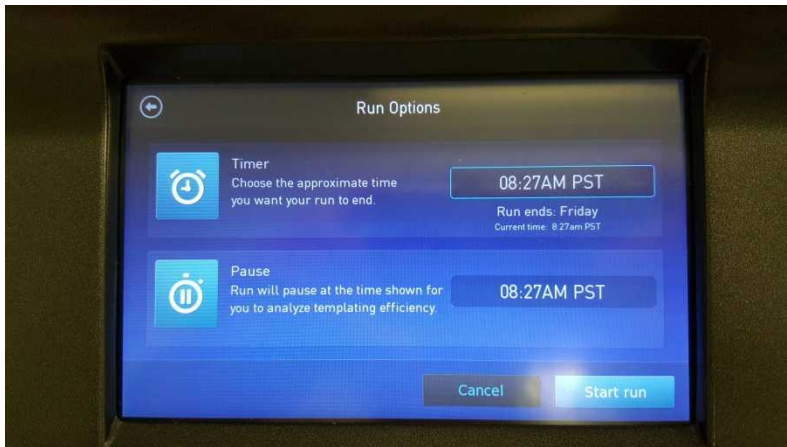

Figure 15. Screenshot of the “Run Options” screen
6. **If running the Chef through the entire process to chip loading is needed, choose Timer** at the Run Options screen (see figure 15). The Timer option allows for choosing when the run ends. Runs typically take 6 hours and 45 minutes to complete.